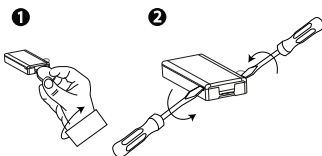

Figure 4: Device cover removal
- 1. Remove the cover. See Figure 4.
Before testing, separate the cover from the base (see Figure 4), then complete the following steps: